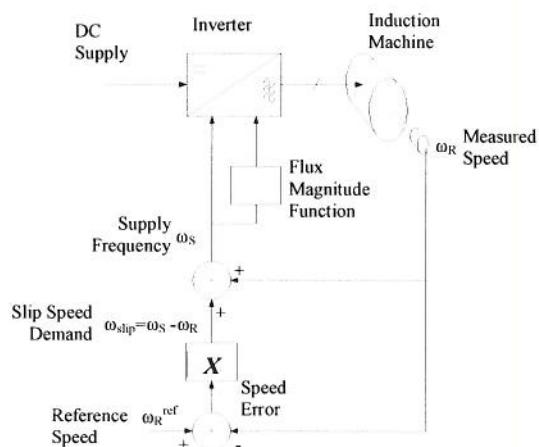

Figure Q2.1 Slip compensated speed control
- d) An induction motor can be controlled using slip-compensated speed control. A simplified diagram of this system is shown in Figure Q2.1. Explain the general principle of operation of the scheme and describe the function of the box marked "X".